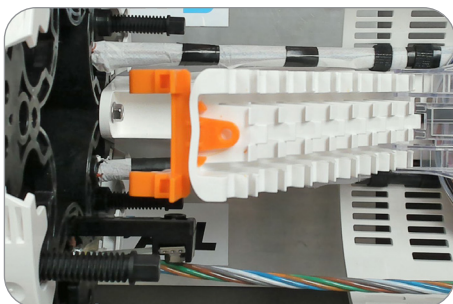

Figure 31
1. The tray brake is stored at the top of the Splice Tray Spline. (Figure 31)
2. Make sure to orient the brake so "TOP" is on top. (Figure 31)